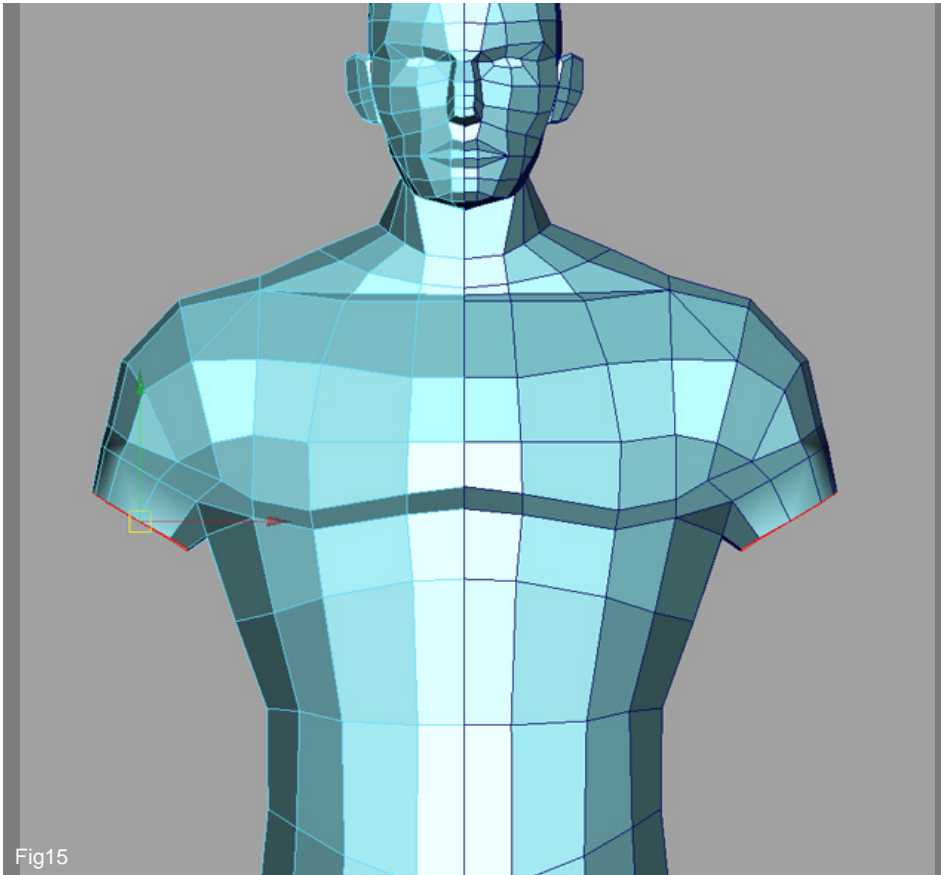

Fig15
15. Now select the whole ring of edges and extrude it downward. Fig15